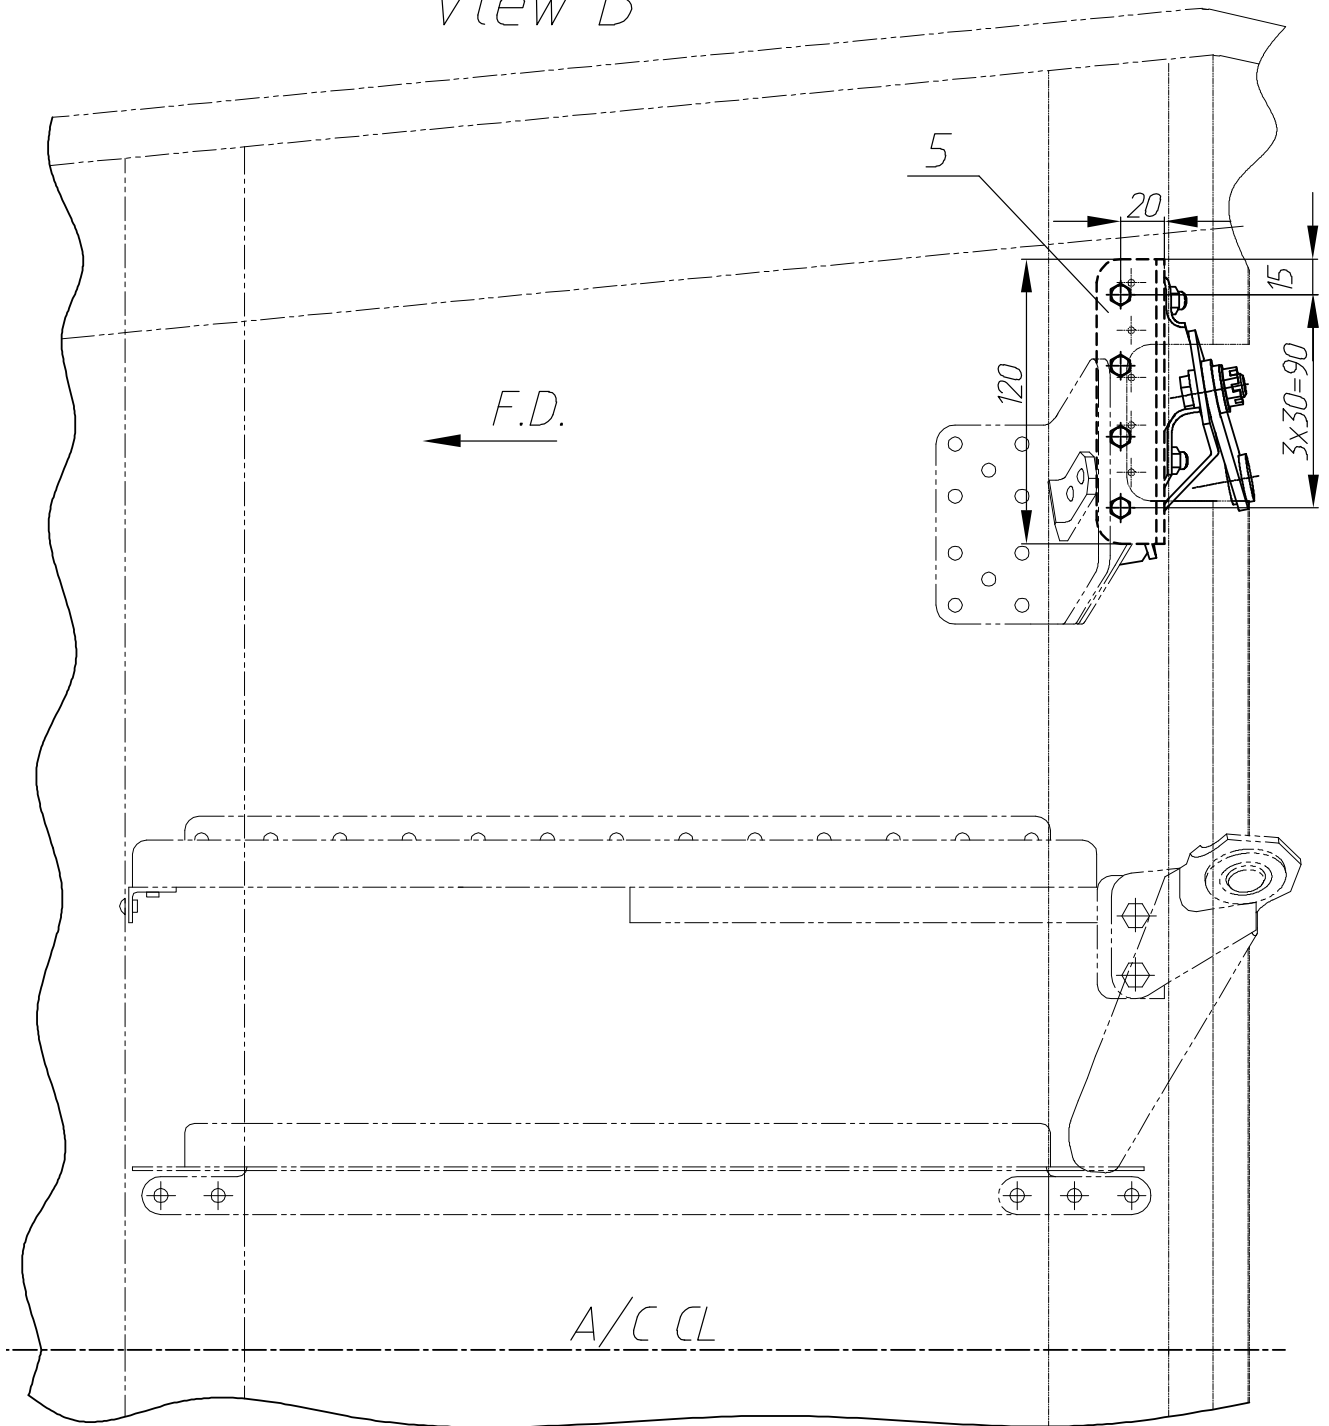

Fig. 2b
- 1) Drill out and remove the rivets (14).
- 2) Remove the old shape (4).
- 4) Install new reinforcement shape (5) inside the beam;
- 8) Mark the holes for M5 bolts in the beam (fig. 2b).